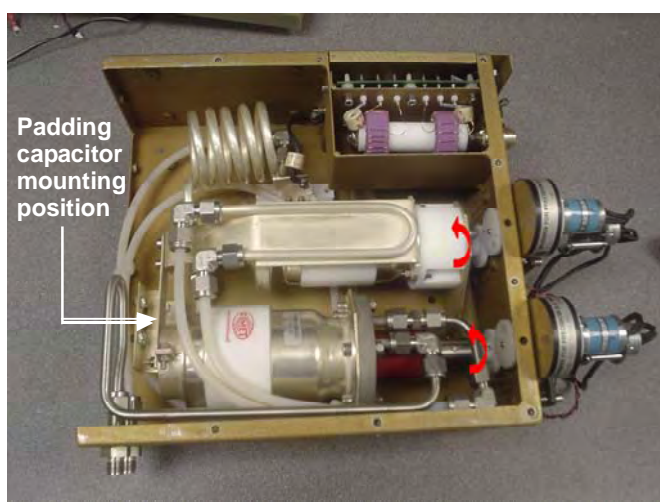

Fig 4: Capacitor shafts rotation direction
- 5) Confirm the operation of each motor using the manual drive. An increase in capacitor position should make the vanes overlap more. In the case of a vacuum capacitor, an increase in position should turn the capacitor shaft anti-clockwise, when looking at it from the motor end (see Fig 4). Check with a capacitance meter in case of doubt.
To find the minimum position, turn the capacitor shaft in the direction of the arrow, shown in Fig 4.
To find the maximum position, turn the capacitor shaft opposite to the direction of the arrow in Fig 4.
(Applies to all system types) Rotate the vacuum capacitor shaft clockwise as you look at it from the motor end (see Fig 4) until the shaft just becomes stiff, and then turn in half a turn. Making sure the motors don't mesh, drive both motors to minimum (000).